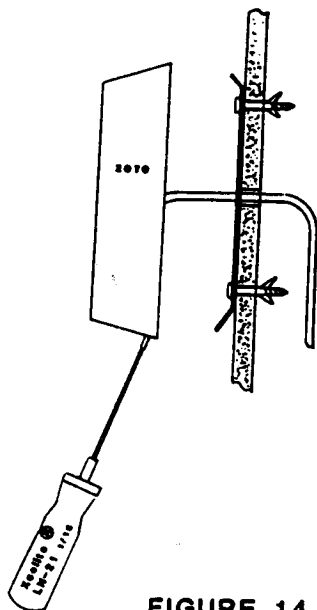

FIGURE 14
The Model 2070 or 2069 keystation attaches to the supplied bracket which may be mounted to a double-gang electrical box or directly to a wall surface using the appropriate fasteners. Mount the bracket with the longer tabs down. Pull the wires, from the 2720 through the center opening of the bracket and splice the wires to the supplied pig-tail cable using type B low voltage wire connectors. Slip the 2070 over the bracket's upper tabs and carefully rotate the 2070 down until the entire keystation is flush with the wall. Using a 1/16" Hex Key wrench (Xcelite Model LN-21 or equivalent), tighten the two set screws on the bottom of the 2070 until it is secured to the bracket. Refer to Figure 14 for this procedure. **NOTE:** A maximum of four (4) 2070 keystations may be used per 2720 control panel under normal conditions. Two additional 2070's can be used if their speakers are disabled (cut speaker wire).
The Model 7361 Intercom Module plugs into connector P4 on the Model 2720 circuit board. Refer to Figure 14 for a wiring diagram of the Intercom System.